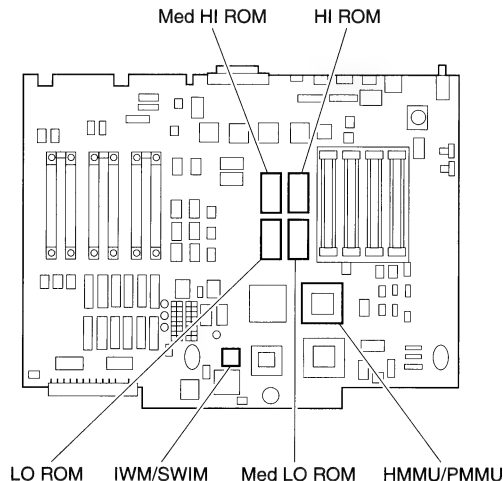

Figure 4 Macintosh II Logic Board
3. Using an IC extractor, remove the four ROMs at the logic board locations shown in Figure 4.
4. Using the following chart and Figure 4, install the four revised 512K ROMs. The notch at the end of each ROM should face the front of the logic board.
5. Using the IWM/SWIM extractor, remove the IWM chip from the logic board (see Figure 4).
6. Position the SWIM chip (see Figure 4) so that the beveled edge with the white dot faces the white dot on the logic board.
2. Locate the HMMU chip on the logic board (see Figure 4).